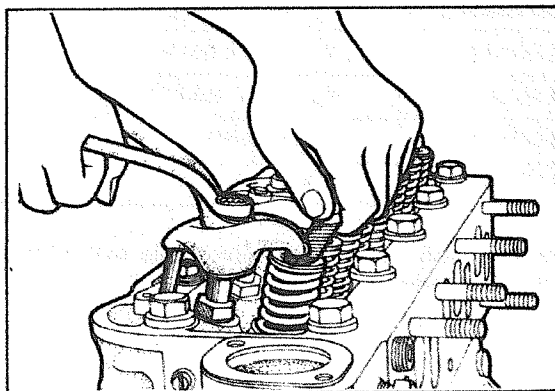

Fig. 7 Valve Clearance Adjustment
6. Install the rocker arm and rocker ball and temporarily tighten the nut. Then adjust the valve-to-rocker arm clearance (valve clearance) at the top dead center of compression of each cylinder by means of the rocker arm nut. (Fig. 7)